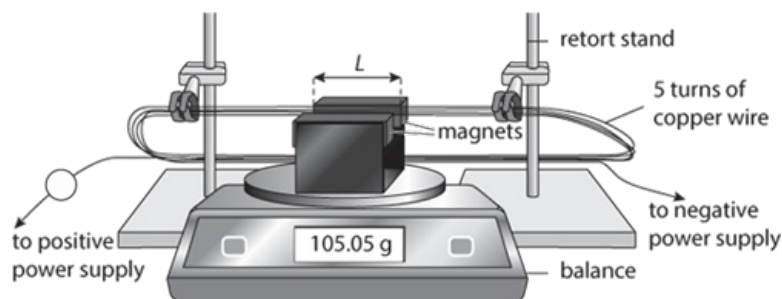

Figure 14.1: Copper wire between magnets.
- 1 Set up the apparatus as shown in Figure 14.1.